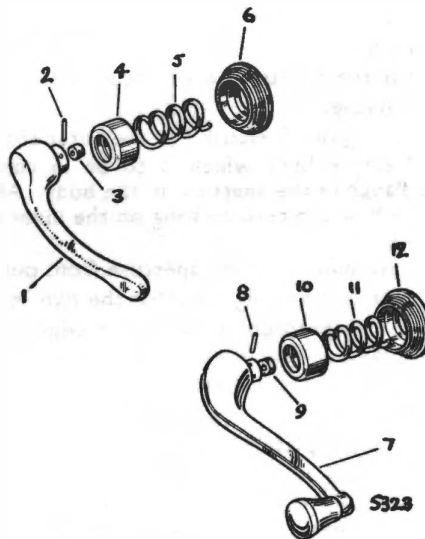

Fig. 10. Interior door handles (Alpine)
**INTERIOR HANDLES—To remove and refit Alpine (Fig. 10)**